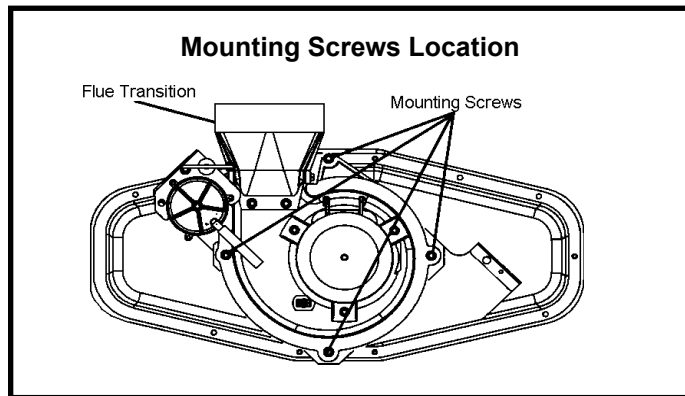

Figure 15
1. Remove the four mounting screws (Figure 15) which secure the combustion air inducer / pressure switch assembly to the orifice plate. Lift the assembly and rotate it 90° clockwise or counter clockwise to either the 3 o'clock position. Resecure with four screws. Gasket should be left in place.